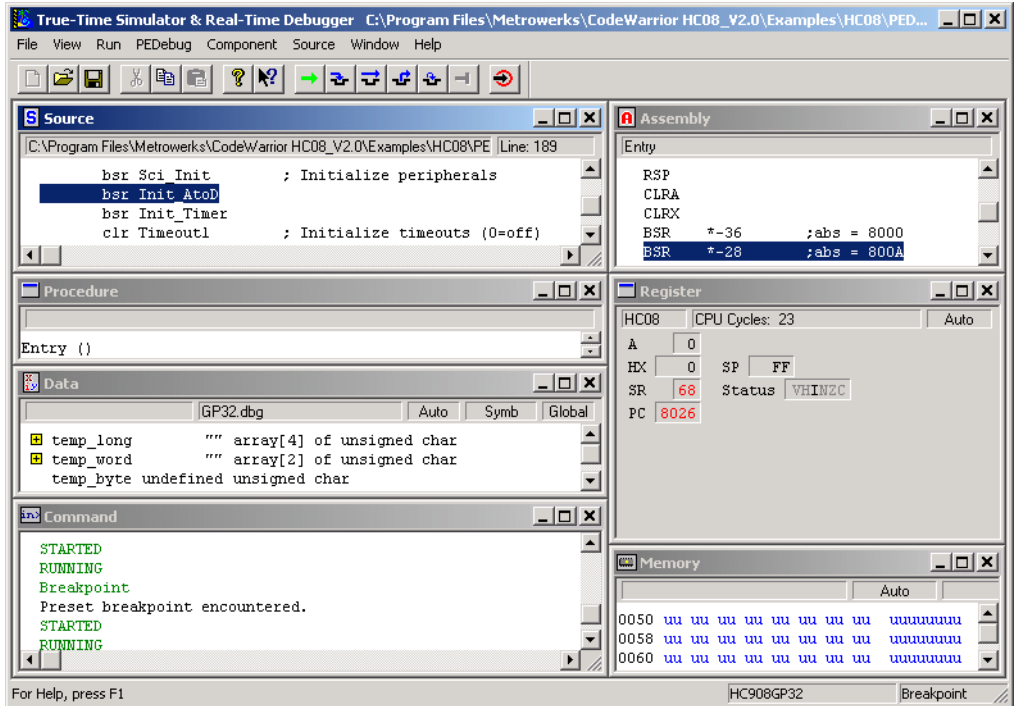

Figure 8-5: True-Time Simulator & Real-Time Debugger Window
4. Click the Debug icon (green arrow). The True-Time Simulator and Real-Time Debugger launches. See **Figure 8-5**.